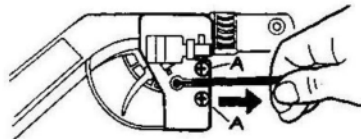
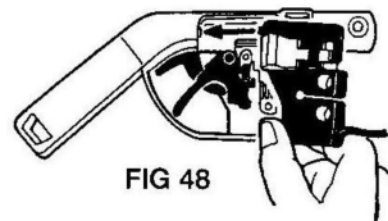

FIG 38
FIG 48
1. Loosen 2 throttle trigger cover screws (A). Pull outer cable forward and lift inner cable and lug out of slot in cover (Figs 38 & 39).
1. Remove throttle trigger cover by removing 2 screws (A) shown in Fig 38.
1. Remove 2 screws (A) as shown in Fig 38 and remove cover and all parts. Re-assemble as follows.
4. Hold trigger in place with finger until throttle cover #44069 is fitted (Fig 48). It is then ready for screwing tight (with 2 screws (A) as shown in Fig 38). Ensure throttle cover rear lug (arrowed Fig. 48) engages underside of handle wall.